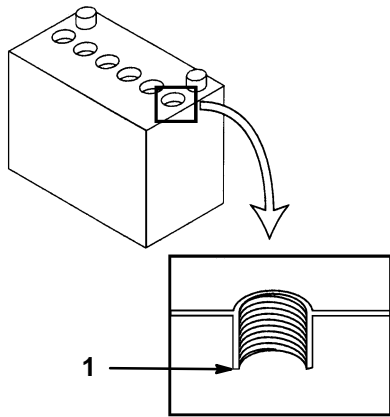

Figure 50
4. Open the cell covers to see into the cells. The electrolyte must be up to the lower part of the tube (Fig. 50). Do not allow the electrolyte to get below the plates.
2. Lift off the filler caps (Fig. 50).
3. Slowly pour distilled water into each battery cell until the level is up to the lower part of the tube (Fig. 50).